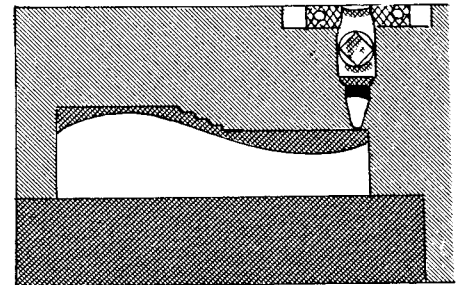

FIG. 508
9. If the work is a solid piece, it should be partially roughed out first (Fig. 508) by taking a series of horizontal cuts as instructed in step No. 6, page 288.